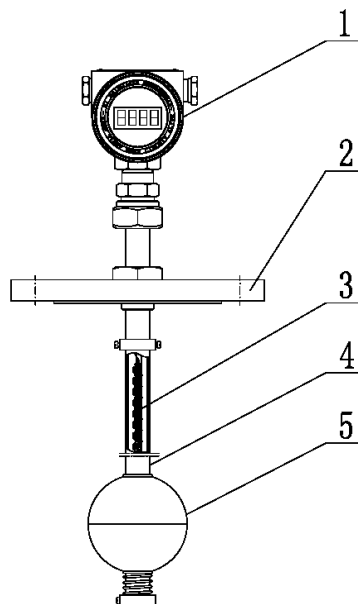

Figure 1 Product Basic Structure
2.1 Product Basic Structure-Figure 1